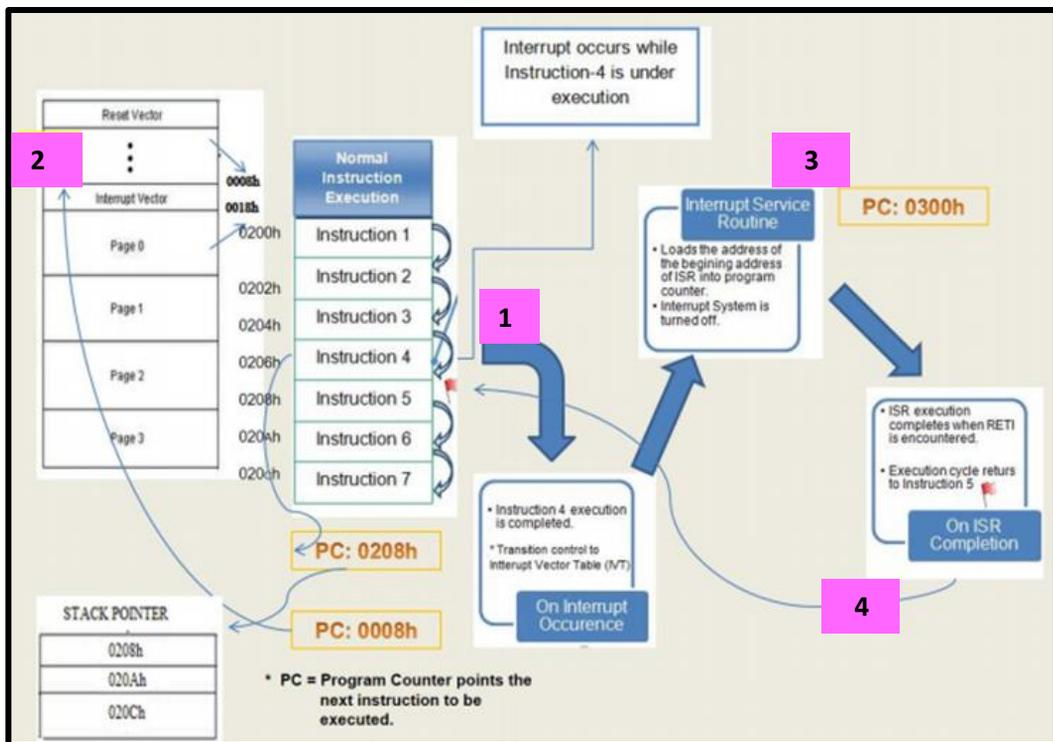

Figure 4.15: The Interrupt Processes in the Microcontroller
Below are the steps used in executing an interrupt. Refer to figure 4.15 when reading the explanations below to understand the interrupt processes better. Figure 4.15 shows what happens when a normal instruction is under execution beginning from the address 0200h.
- The microcontroller will stop the instruction it is executing in the memory midway. In Figure 4.15, we could see that the microprocessor stops its execution at address 0206h.
- We can see this as the thin blue line in figure 4.15. Since the 16-bit Program Counter is the memory which keeps track of which memory location the microcontroller is executing, this PUSH operation will save the address 0208h into another Stack Pointer register and stay there until this whole process is over.
- As we can see in Figure 4.15, the PUSH operation will occasionally save the next two or three addresses as well in the Stack Pointer. It will do this to resume back the normal instruction execution at step 4 quickly.
- This is done by automatically loading the address 0008h to the Program Counter. (look at the thin blue line in Figure 4.15). Thus allowing it to begin execution of any ISR program from that address.
- There can be other ISR beginning from the address 0008h. In this example in figure 4.15, the ISR happen to be located at address 0300h.